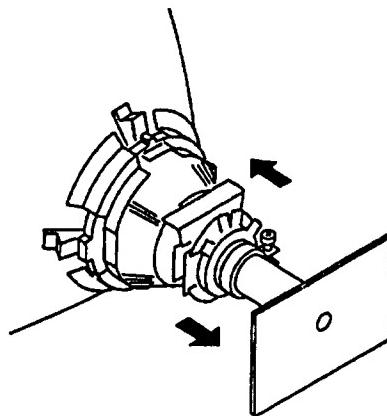

Fig. 1
- Move the deflection yoke forward, and adjust so that the entire screen becomes green. (Fig.1)